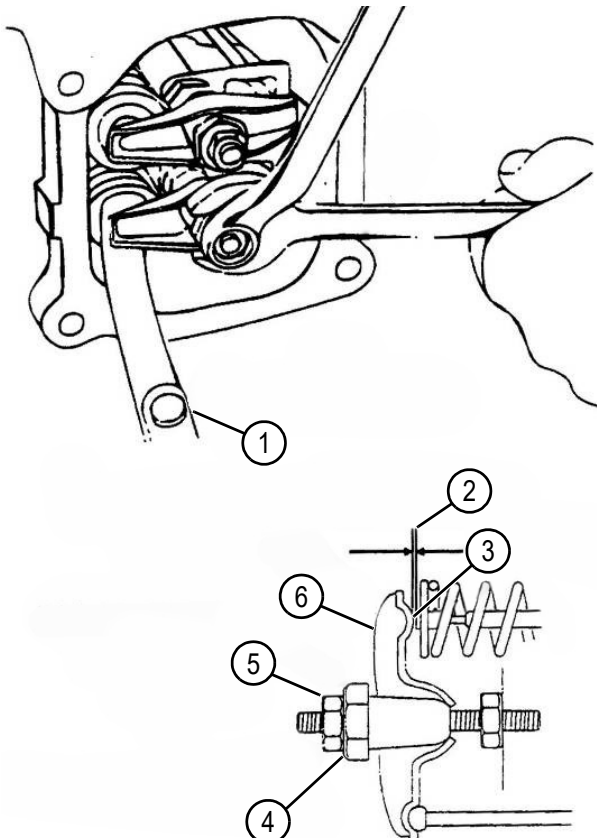

Figure 3-5: Valve Clearance Inspection
3. See Figure 3-5. Use a commercially available feeler gauge and measure the clearance between the rocker arm and the tip of the valve stem.